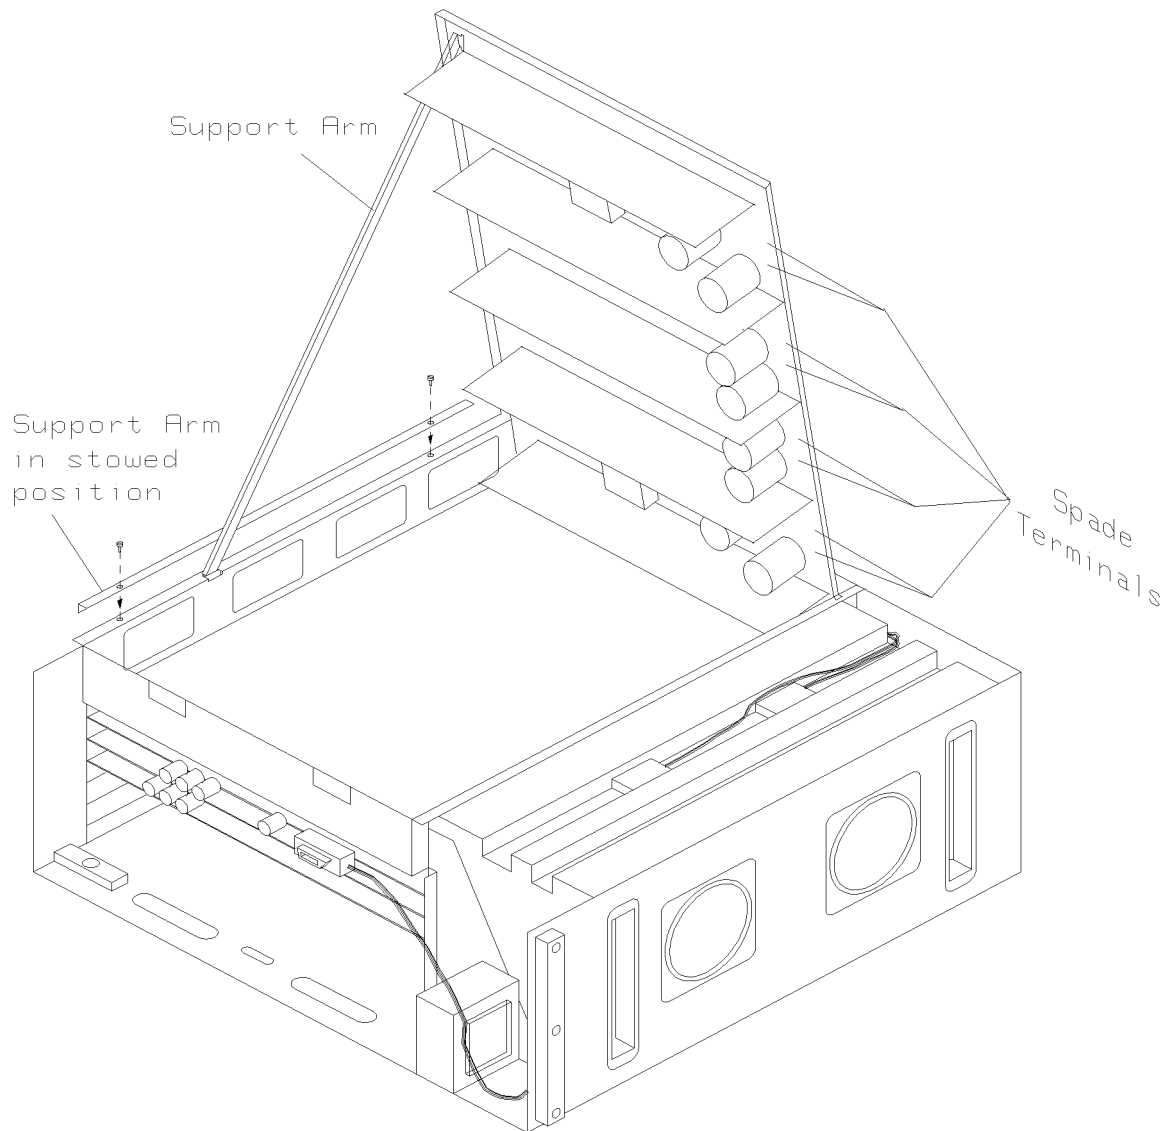
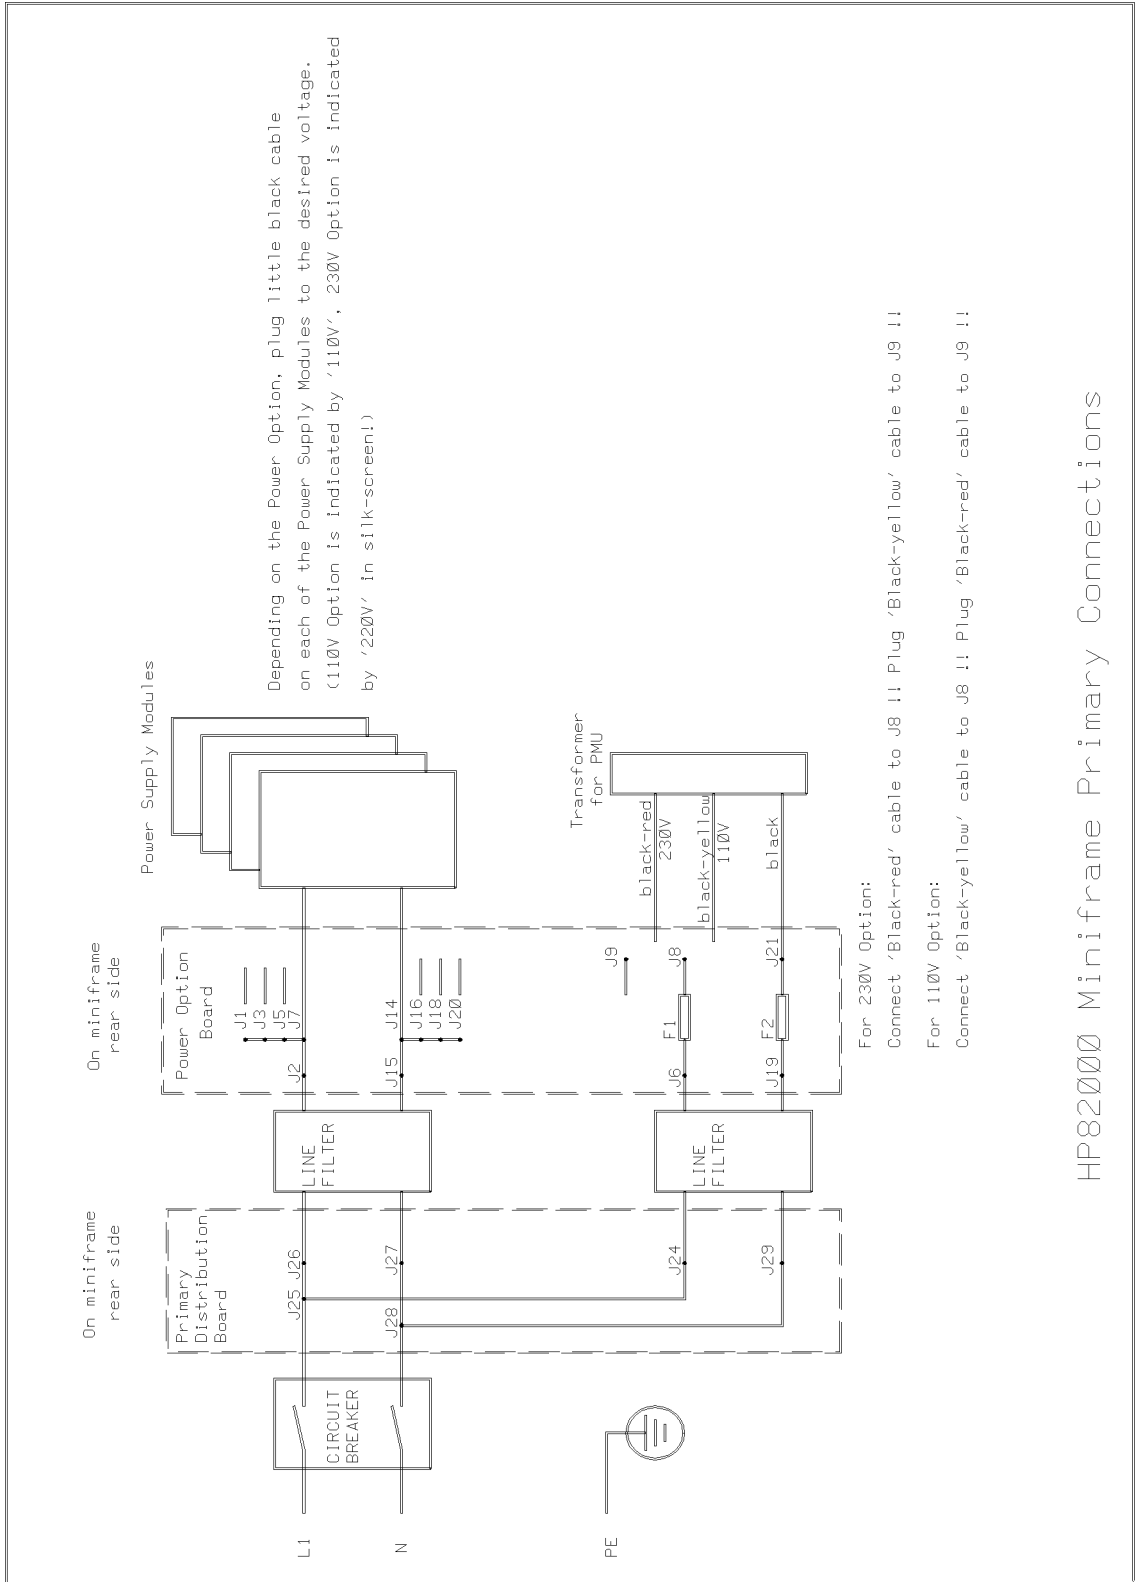

Figure 6-16. Miniframe - Showing Power Supply Assembly
Figure 6-17. Miniframe - Primary Connections
2. **reposition a link on each of the Power Supply Units (Refer to Figure 6-16 and to Figure 6-17).**
Refer to Figure 6-16 and to Figure 6-17.
4. Refer to Figure 6-16. Locate the eight spade terminals , two per Power Supply Unit.